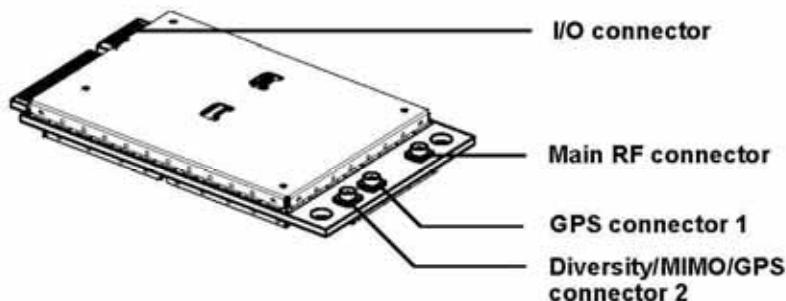

Figure 5-1: Module connectors
- Use Hirose U.FL connectors (3 mm x 3 mm, low profile; model U.FL #CL331-0471-0-10) to attach antennas to connection points on the module, as shown in Figure 5-1 on page 37.
- Connect to system ground using the two mounting holes at the top of the module (shown in Figure 5-1 on page 37).